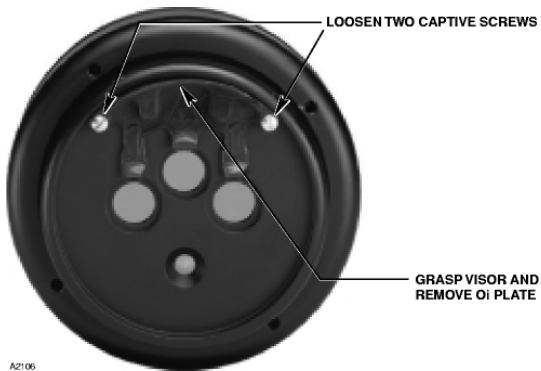

Figure 5 - *oi* Plate Removal
1. Loosen the two captive screws, then grasp the *oi* plate by the visor and remove it from the detector. See Figure 5.